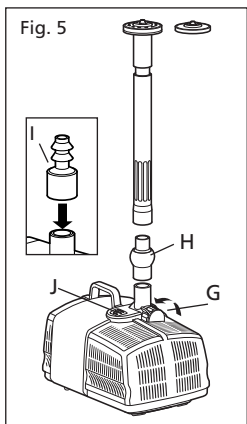

Fig. 5
The flow from the pump can be regulated to meet your needs by rotating the flow controller wheel (G) near the outlet of the pump. See Fig 5.
- The ball joint - See Fig 5 (H), fits onto the pump outlet and the telescopic stem pushes onto the top. This can then be used to adjust the fountain angle so that it is vertical.
- Fit a suitable length of hose 12.5mm bore hose on to the hose adaptor. See Fig 5 (I).
2. Holding the pump in one hand, press the release button (J) on the top of the pump and open Strainer Cage. See Fig 5.